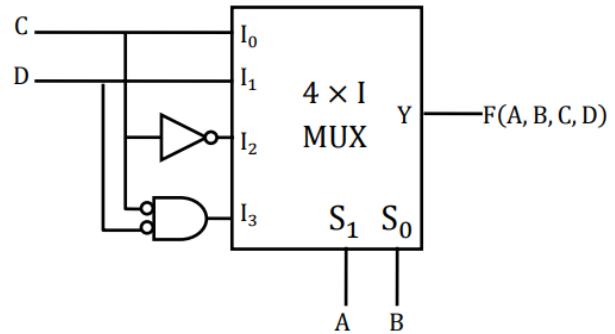

Fig. 3.7
18. Find the Boolean logic realised by the following circuit in Fig. 3.7 (GATE EC 2010)